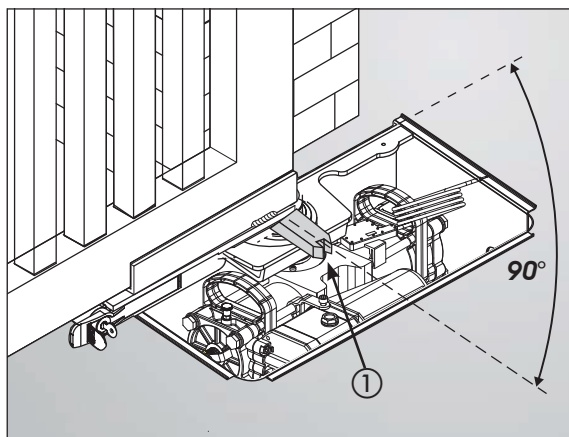

Fig.20
11) Ring the released gate to the open position, checking that the release part freed from the gate **remains at the closed position as in figure 20 ref.①**.